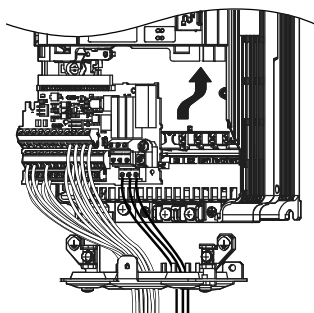

Figure 7.60 Drive Replacement: Installing the Terminal Board
1. Once the main circuit has been wired, connect the terminal block to the drive as shown in **Figure 7.60**. Use the installation screw to fasten the terminal block into place.